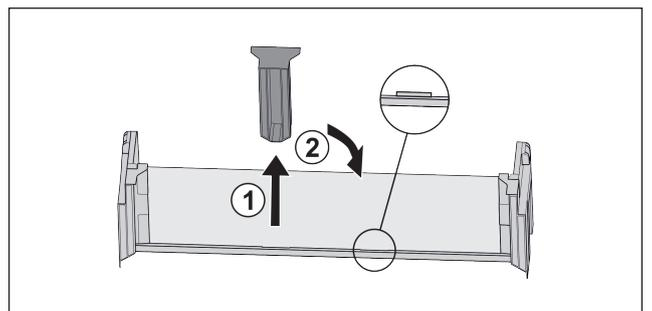

Fig. 29
- ▶ Pull off the middle holder Fig. 29 (1).
- ▶ Insert the middle holder in the second position Fig. 29 (2).